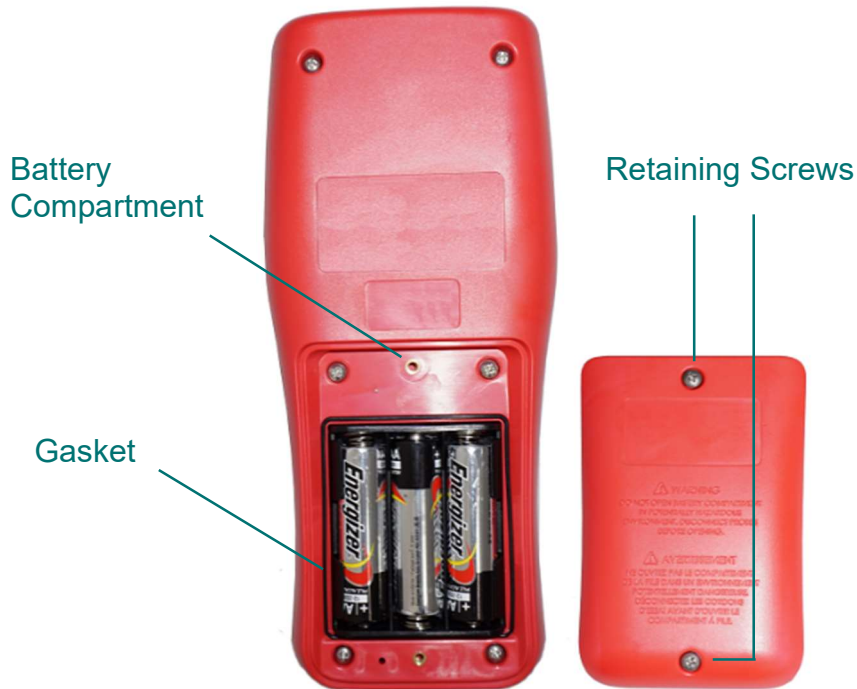

Figure 1: Battery Installation
1. Identify the battery compartment located on the back of the instrument (*see Figure 1 below*);
2. Remove the two (2) battery compartment retaining screws;
6. Observing proper polarity, install three (3) new, AA alkaline (IEC LR6, ANSI 15) batteries;
7. Re-install the battery cover and two (2) retaining screws;